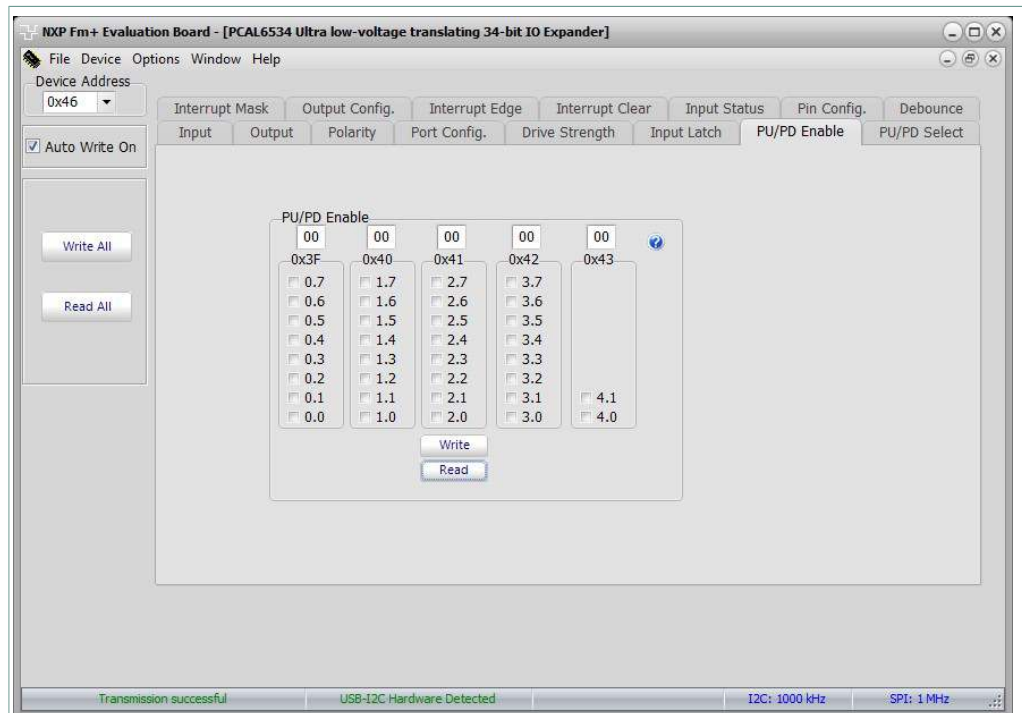

Figure 16. Device configuration screen for registers 3F-43 hex
- 8. PU/PD Enable registers read or write are shown in Figure 16.